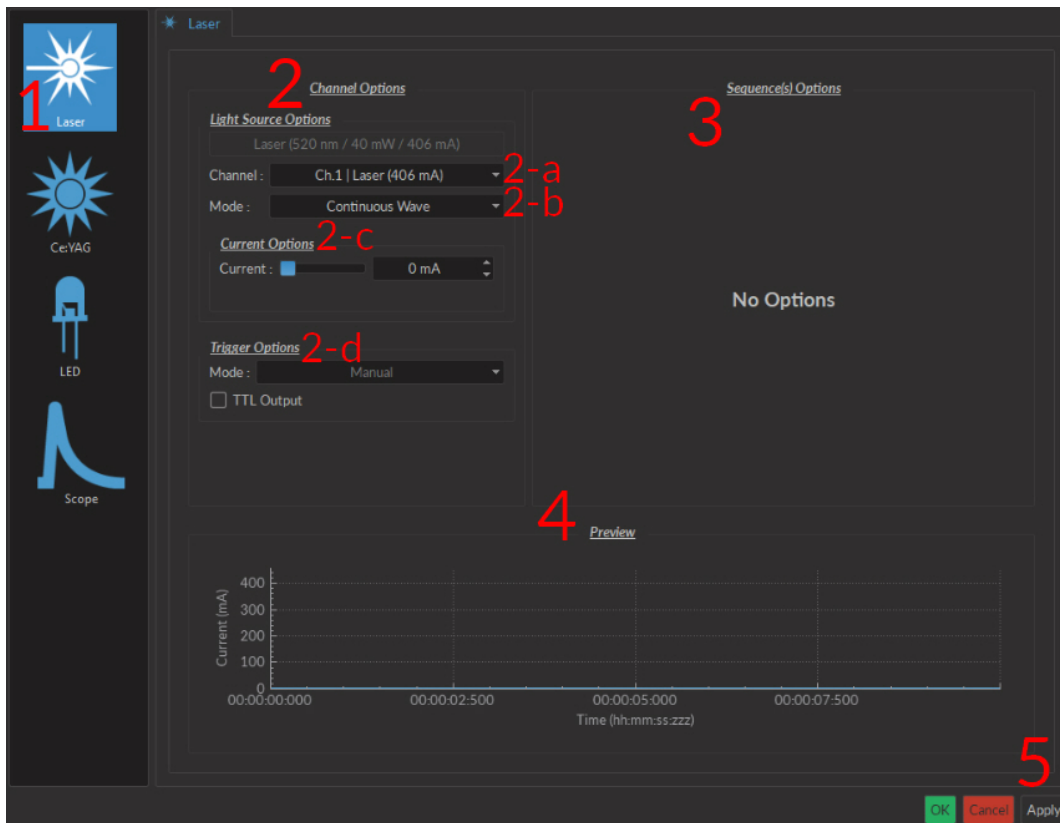

Figure 4.2: Light Source Channel Configuration Window
Each light source driver is separated into a number of **Channels**. Each channel controls a single light source. While each channel can be controlled in **Stand-alone** mode by the driver, additional functions can be accessed for these channels when the driver is connected to the Doric Neuroscience Studio. These functions are used through the **Channel Configuration** window (Fig. 4.2).
1. The **Channel Types** (Fig. 4.2) are displayed on the left side of the window. These include **Laser** light sources, **Ce:YAG** light sources and **LED** light sources, as well as the **Scope** to measure signal using the driver.
2. The **Channel Options** box (Fig. 4.2) includes **Light Source Options** and **Trigger Options** for the given channel.
- a) The **Channel** (Fig. 4.2) drop-down list identifies which driver channel is currently being edited, assuming a driver with multiple channels.
- b) The **Mode** (Fig. 4.2) drop-down list includes each possible driver mode. These are used to control the pulse sequences emitted by the light source. The options related to this mode are detailed with the **Sequence Options**.
- c) The **Current Options** (Fig. 4.2) includes the slider used to control the current sent to the light source.
- d) The **Trigger Options** (Fig. 4.2) allow the selection of a number of trigger modes to activate a pulse sequence.
3. The **Sequence options** box (Fig. 4.2) is where sequence options are defined depending on the mode. The **Continuous wave**, **External TTL** and **External Analog** modes have no additional sequence options.
4. The **Preview** box (Fig. 4.2) displays a preview of the chosen sequence while in the **Continuous Wave**, **Square Sequences** and **Complex Sequences** mode.
5. The **Apply** button (Fig. 4.2) will generate the defined channel OR update an already configured channel with any changes.